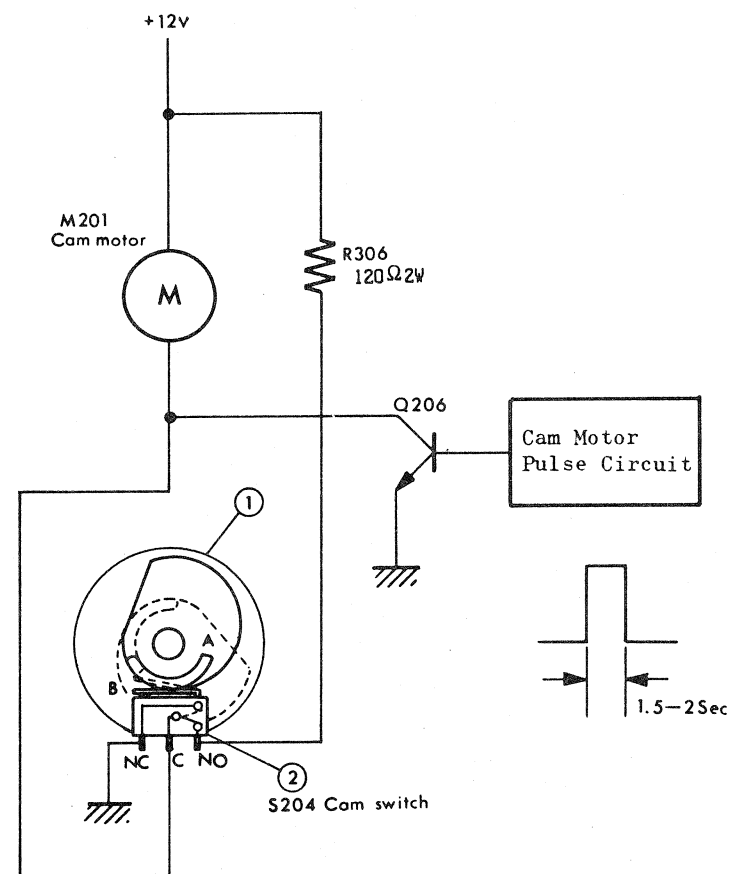

Fig.51
1. It sends pulse signal for the cam motor to start. When the projector is at stop position, the operation cam ① is at [A] position shown in Fig. 51, turning the cam switch to ON with the rib section. On receiving the FORWARD (REVERSE) signal, the pulse circuit transmits 1 pulse to the base of Q206, turning Q206 to ON and rotating the cam motor for 1 pulse time (1.5 ~2 secs.). During that period, the rib section of ① that is pushing ② is shifted to [B] position to turn ② to OFF. In other words, the pulse from the pulse circuit rotates the cam motor only for changing over the cam switch (S204) from N. O. to N. C. When the cam switch is set to N. C., the negative side of motor gets grounded, causing the motor to rotate continuously. Then ① shifts the link (1), and after taking one turn (rotation), it pushes ② with the rib section, setting ② from N. C. to N. O. This causes the resistance R306 (120 Ω , 2W) to be connected between the two terminals of the motor and applies brake to the motor, stopping ① at a specified position.